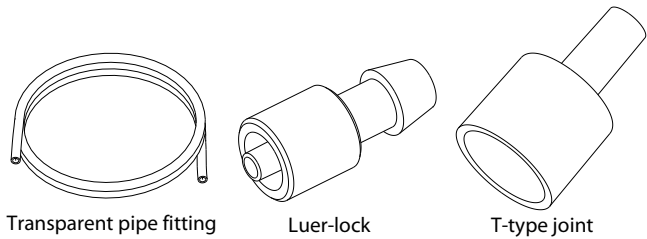

Figure 5-1 Disassembly of the insufflator tube
1. Disassemble the pipe fitting to its basic structure. As shown in Figure 5-1, Figure 5-2, and Figure 5-3.